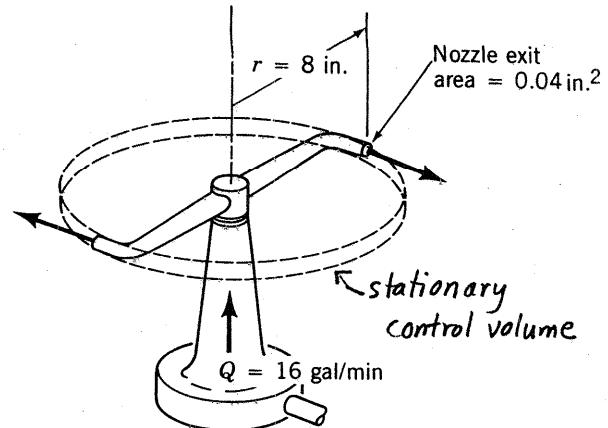

FIGURE P5.68
- 5.68** Water enters a rotating lawn sprinkler through its base at the steady rate of 16 gal/min as shown in Fig. P5.68. The exit cross section area of each of the two nozzles is 0.04 in.² and the flow leaving each nozzle is tangential. The radius from the axis of rotation to the centerline of each nozzle is 8 in. (a) Determine the resisting torque required to hold the sprinkler head stationary. (b) Determine the resisting torque associated with the sprinkler rotating with a constant speed of 500 rev/min. (c) Determine the angular velocity of the sprinkler if no resisting torque is applied.